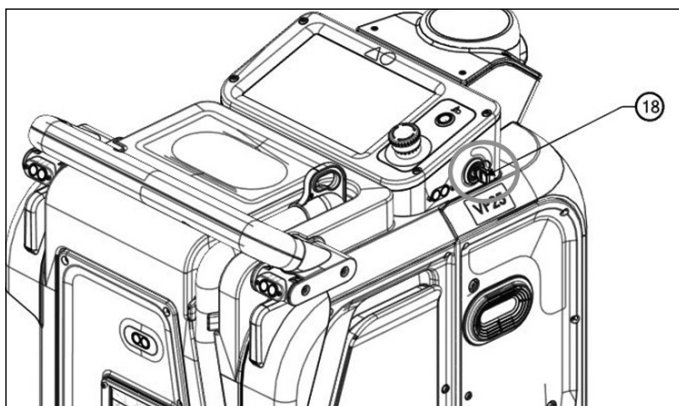

Figure 55
1. Insert key into Key Switch (**18**) as shown (**Fig. 55**).